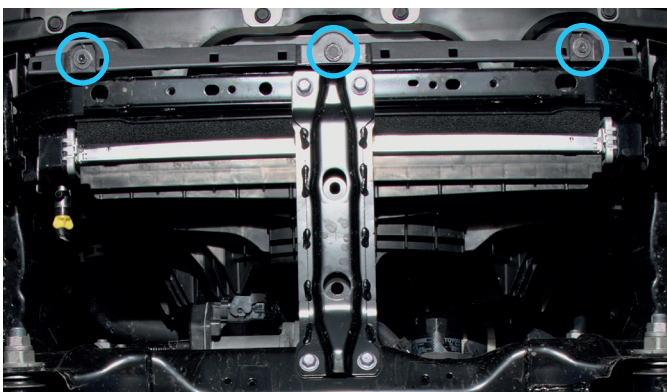

Fig. 5
5. Fix factory plastic cover to pre-installed mounting bracket (item 2) using factory bolts from step 1 as shown in fig.5.